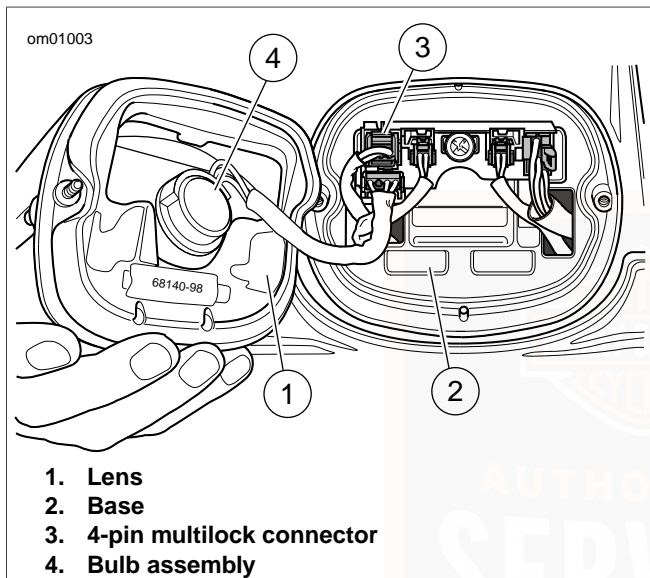

Figure 56. Tail Lamp Assembly: Standard Style
1. See Figure 56. Make certain ignition switch is turned off.